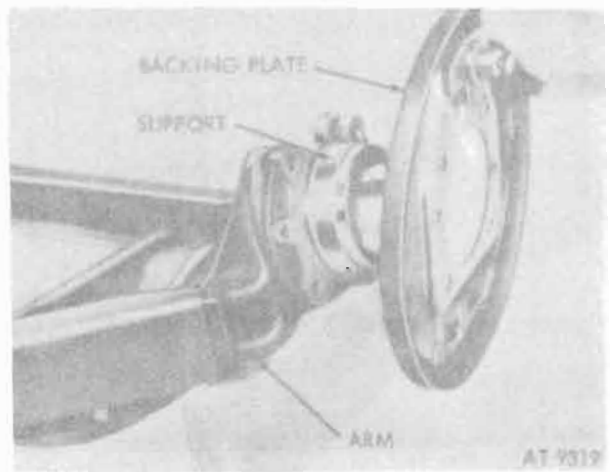

Figure 11-22. Brake backing plate and support (M151, M151A1, M151A1C and M718 vehicles).
c. Remove backing plate from support (fig. 11-22 and 11-23).
d. Remove rear support from suspension arm (fig. 11-22 and 11-23).